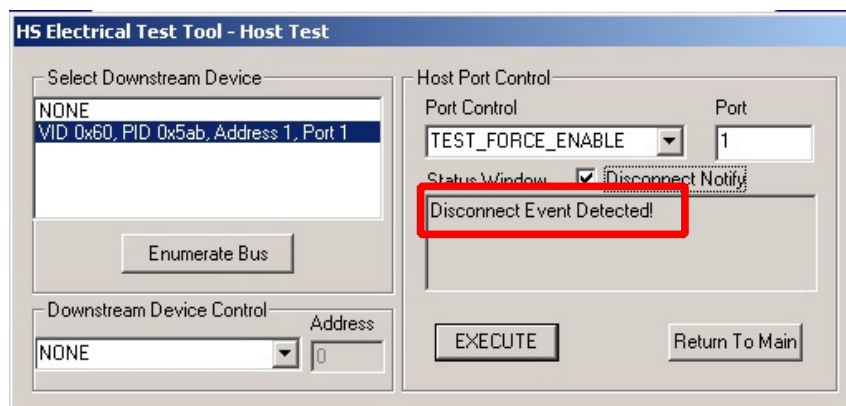

Figure 22. Disconnect Event Detection
- c. Verify that the Status Window now displays the Disconnect Event Detected (Figure 22)